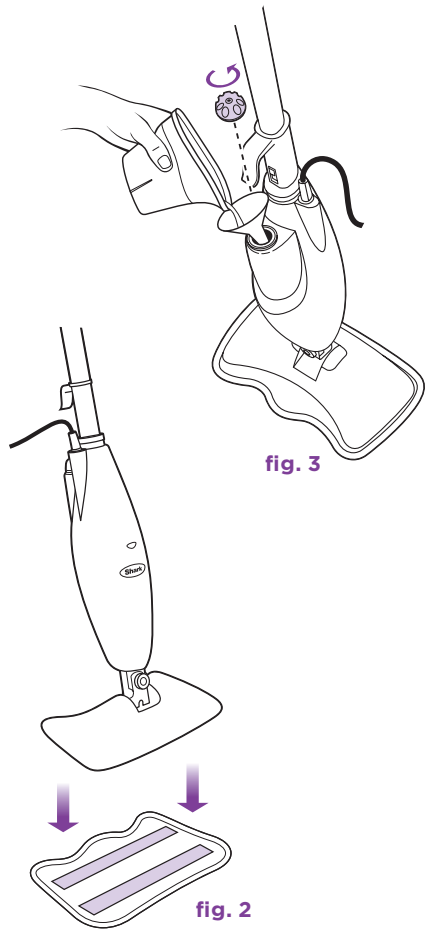

fig. 3
- 3 Remove the cap to fill the water tank. Use the filling flask and funnel to fill the tank with water to the "MAX" fill line. Replace the water tank cap. (fig. 3)